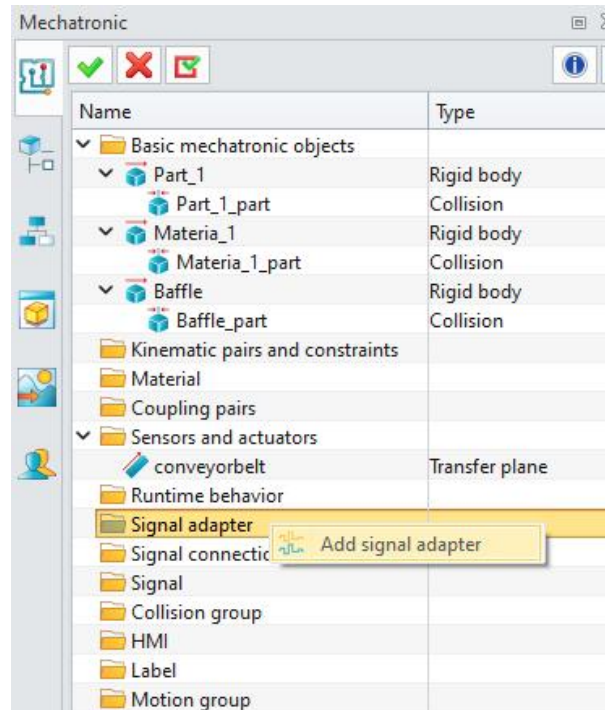

Figure 6-15: Signal Adapter
- Click "Signal Adapter" and right-click to select "Add Signal Adapter". (Figure 6-15)